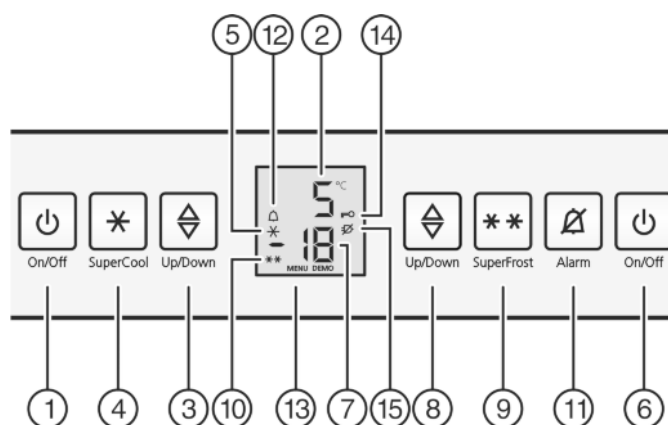

Fig. 2
- ▶ Press the freezer On/Off *Fig. 2 (6)* button.
- ▶ Press the fridge On/Off *Fig. 2 (1)* button.
- ▶ Activate setting mode: press the SuperFrost button *Fig. 2 (9)* for approx. 5 seconds.
- ▷ The Menu symbol *Fig. 2 (13)* is shown on the display.
- ▶ Briefly confirm with the SuperFrost button, *Fig. 2 (9)*.
- ▷ The child lock symbol *Fig. 2 (14)*, lights up on the display.
- ▶ Briefly press the freezer compartment On/Off button *Fig. 2 (6)*.
- ▷ The child lock symbol *Fig. 2 (14)* goes out.
- ▶ Press alarm button *Fig. 2 (11)*.